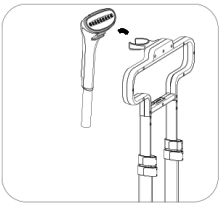

Fig. 7
- Put the steam brush on the brush fix base. Fig.7